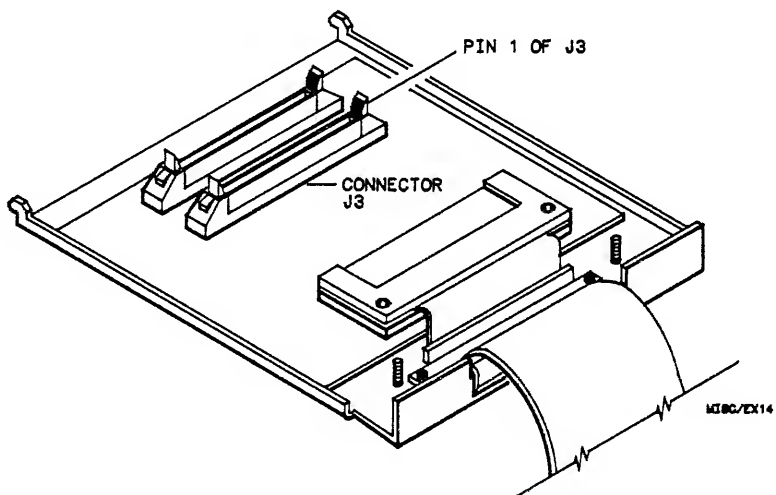

Figure C-1. Component Side of the PC Board
2. Locate pin 1 of the blue 60-pin connector labeled J3. The connector is shown in figure C-1 from the component side of the PC board.